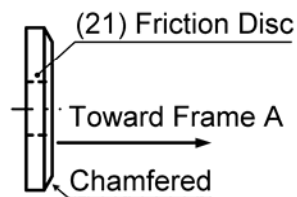

Figure 5-14 Friction Disc
- 1) Apply (G2) grease to (14) Stud B and (23) Pawl Spring Assembly.
- 2) Put the end of (23) Pawl Spring Assembly into the small hole in (10) Frame A and place the spring assembly around the bottom of (14) Stud B.
- 3) Place (22) Pawl around (14) Stud B and hook the opposite end of (23) Pawl Spring Assembly around the Pawl.
- 4) While directing the tip of the pawl outward by turning (22) Pawl counterclockwise, attach (21) Friction Disc (as shown in Figure 5-14) and (19) Friction Plate (inner) to (16) Pinion.